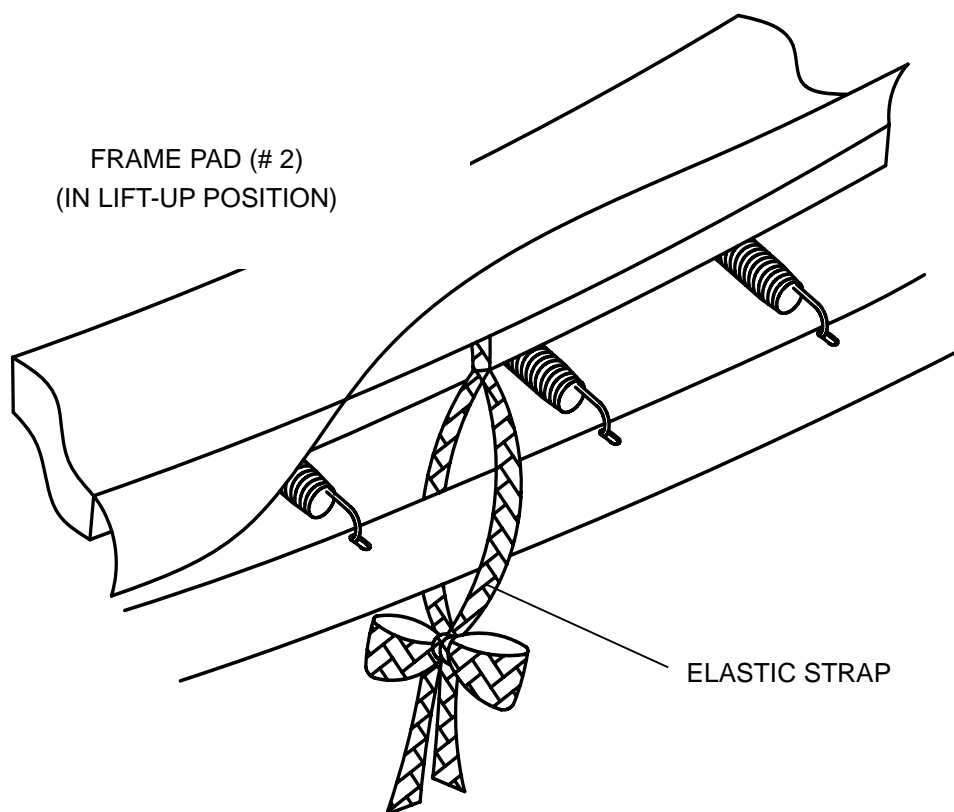

FIGURE 14
- B. Tie the remaining elastic straps around the trampoline frame as shown in FIGURE 14. Pull tightly so that the frame pad securely covers the frame.